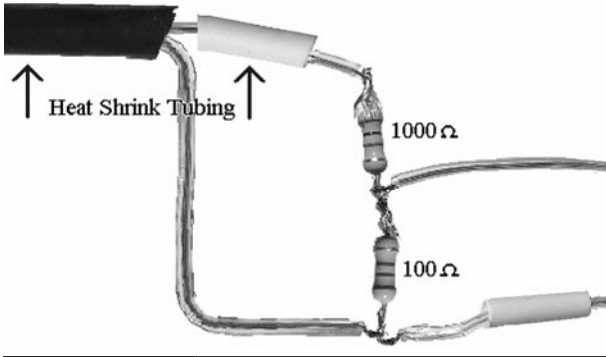

Figure L30-12
- Slide skinny heat-shrink tubing onto each line before you solder. The heat-shrink tubing is easier to use than tape. The layout is shown here in Figure L30-12.